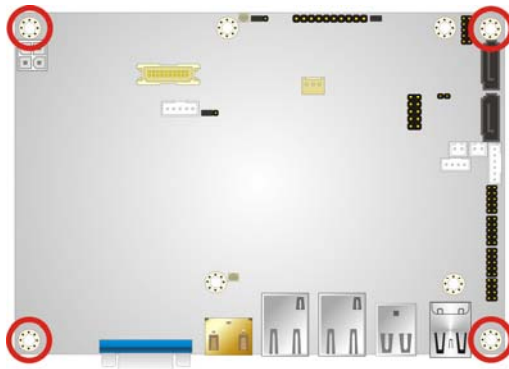

Figure 3-9: Retention Screws on the Motherboard
Step 4: Release the motherboard from the panel PC by removing the four retention screws (Figure 3-9).